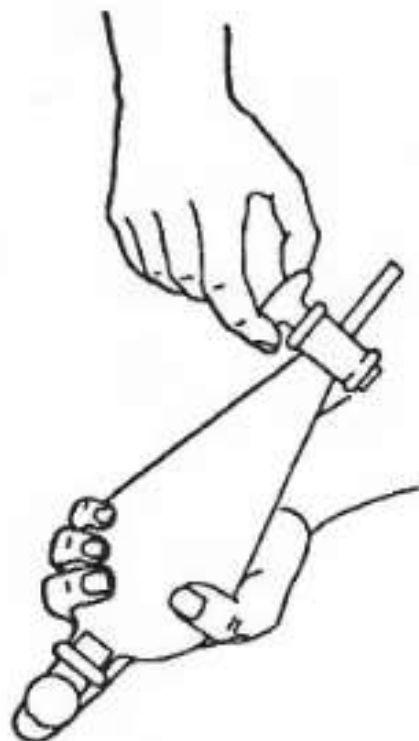

Figure 9-5. Separatory funnel venting technique.
- The more common sizes can be obtained made from plastic (usually polypropylene). The usual capacities are from 30 mL to 2 L. Figure 9-5, p. 101, shows the proper way to hold a separatory funnel.
3. When two immiscible liquids are mixed, there is still a small amount of each liquid that dissolves in the other, and the heat of solution that may develop can cause a pressure buildup. Figure 9-5 shows how this is vented safely.